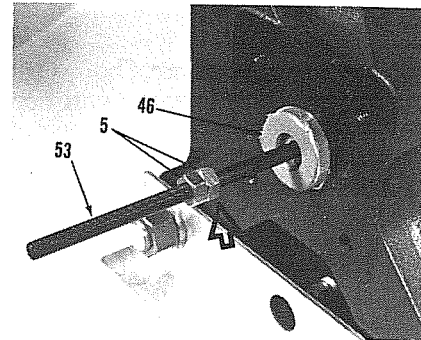

Figure 7-17, Nuts screwed on shifting rod to thread run-out.
7.3.2 Lubricate spacer (46) with Molykote® and install. Tap spacer to fully seat it in recess of air end plate. See Figure 7-17.